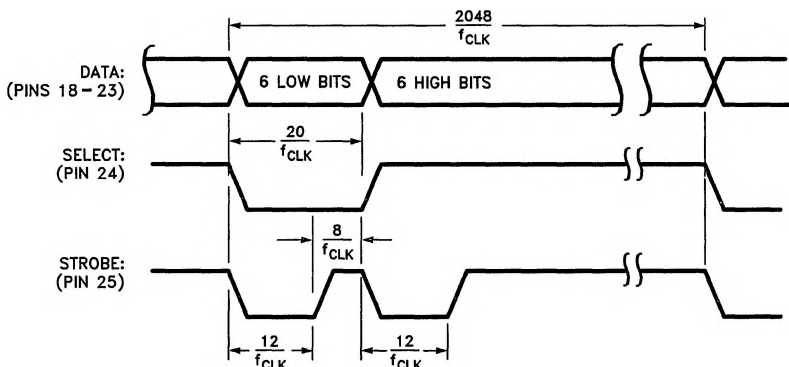

FIGURE 8. 12-Bit Multiplexed Output Timing
2. LM628 (12-bit output mode): Outputs two, multiplexed 6-bit words. The less-significant word is output first. The MSB is on Pin 18 and the LSB is on Pin 23. Pin 24 is used to demultiplex the words; Pin 24 is low for the less-significant word. The positive-going edge of the signal on Pin 25 is used to strobe the output data. *Figure 8* shows the timing of the multiplexed signals.
The LM628 DAC output port can be configured to provide either a latched eight-bit parallel output or a multiplexed 12-bit output. The 8-bit output can be directly connected to a flow-through (non-input-latching) D/A converter; the 12-bit output can be easily demultiplexed using an external 6-bit latch and an input-latching 12-bit D/A converter. The DAC output data is offset-binary coded; the 8-bit code for zero is 80 hex and the 12-bit code for zero is 800 hex. Values less than these cause a negative torque to be applied to the motor and, conversely, larger values cause positive motor torque. The LM628, when configured for 12-bit output, provides signals which control the demultiplexing process. See Figure 8 for details.